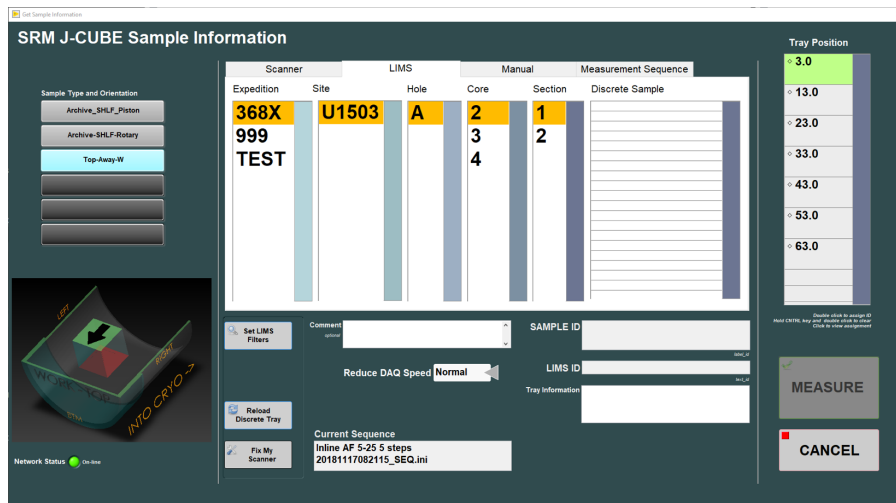

Figure 25- Sample Information Window: Discrete LIMS Entry
- **LIMS** mode: Use the hierarchy selection columns to select a discrete sample (Figure 25). You must select a sample from the Discrete Sample list box before you can assign it to a tray position. Double click on the **Tray Position** list to assign it to a tray position.